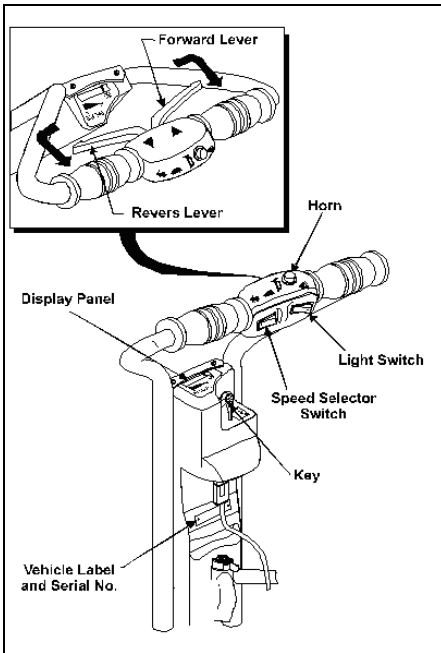

figure 14
- 3.1 Mount the **SUPERLIGHT**, insert the **Key** into the **Slot** and turn it clockwise to the (marked) **ON** position. The **Key** will remain in this position. **Panel On Light** should come ON. (See **Figure 14**).